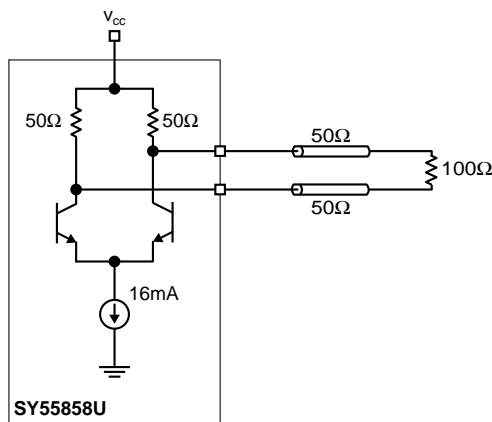

Figure 3. 50Ω Output Termination
Note 3. $V_{OUT(SWING)}$ is defined as the swing on one output of a differential pair, that is $|V_{OH} - V_{OL}|$ on one pin. The swing for common mode immunity purposes is $2 \times V_{OUT(SWING)}$. Actual voltage levels and differential swing will depend on customer termination scheme. Typically, a 400mV swing is available in the 50 Ω environment. Refer to the "CML Output Termination Application" section, Figures 3 and 4, for more details.
- Note 2.** Tested using environment of Figure 3, 50Ω equivalent load. AC parameters are guaranteed by design and characterization.
All CML inputs accept a CML output from any other member of this family. All CML outputs are source terminated 50Ω differential drivers as shown in **Figure 3**.